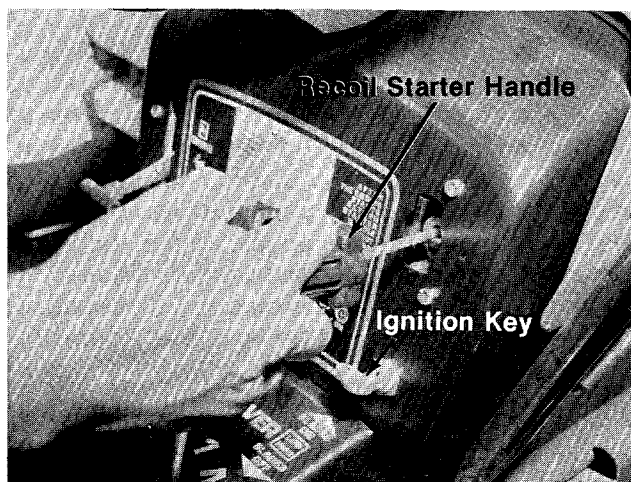

FIGURE 20.
**Recoil Model.** The key must be turned to the "ON" position before you pull the recoil handle to start the engine. Turn the key to the left to the "OFF" position to stop the engine. Remove the key when the unit is not in use. See figure 20.
The recoil starter handle is located on the right side of the dashboard. The recoil starter handle can either be pulled while seated on the rider or pulled while standing behind the rider. The ignition key must be on before the engine will start. After the engine starts, the recoil starter handle must be returned and locked into the dashboard before the blade or clutch are engaged. The engine will stop if these instructions are not followed. See figure 20.
7. a. **Recoil Model.** Turn the ignition key to the "ON" position. Twist the recoil starter handle until it is free and pull it with a quick steady motion. After the engine starts, return the recoil starter handle and twist it until it locks. See figure 20.